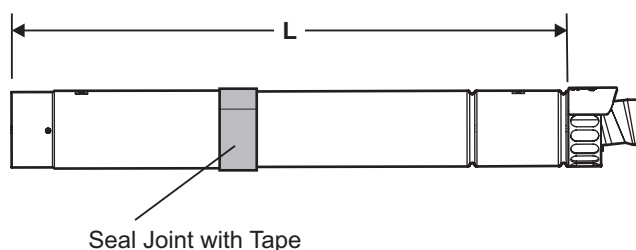

Fig. 3
- Determine the overall length (L) of flue required, (see Fig. 3) as follows:-